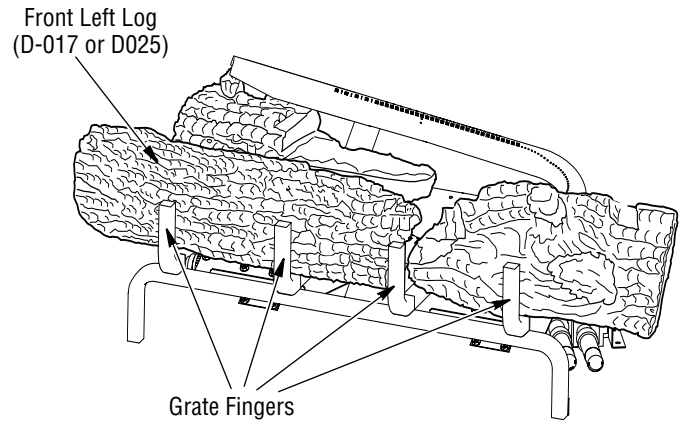

Figure 20 - Installing Front Left Log
3. Find the front left log (SouthernComfort30A/B or ShadyHollow30A/B models: D-017, SouthernComfort36A/B or ShadyHollow36A/B models: D-025). See **Figures 20, 20A, and Figure 20B, Page 14**. The log has a rectangular stand off on the bottom that fits against the lip on the black metal base as shown in **Figure 20A**. The bottom of this log has a slot that fits over the second bar on the grate as shown in **Figure 20B, Page 14**. Place the log on the base assembly as shown in figures.